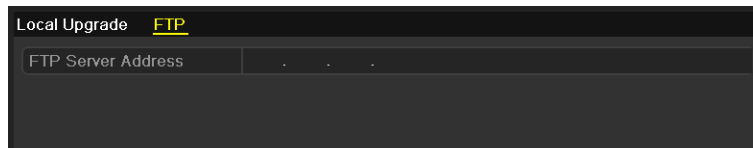

Figure 16-8 FTP Upgrade Interface
Step 2 Click the **FTP** tab to enter the **Local Upgrade** interface, as shown in Figure 16-8.